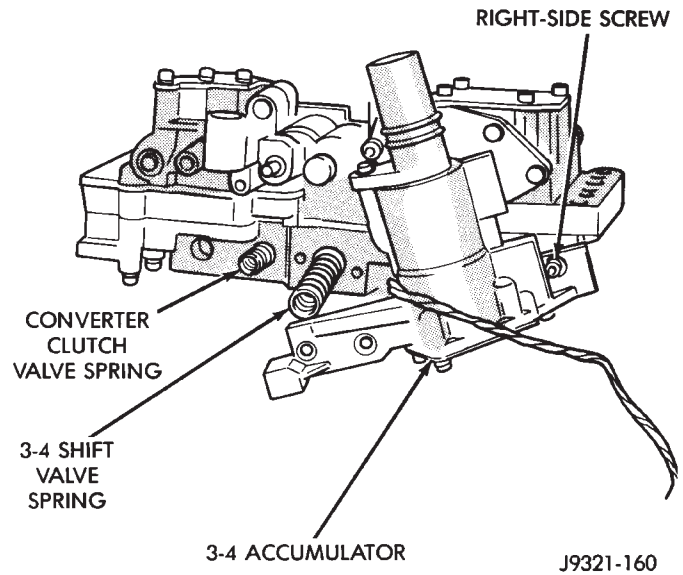
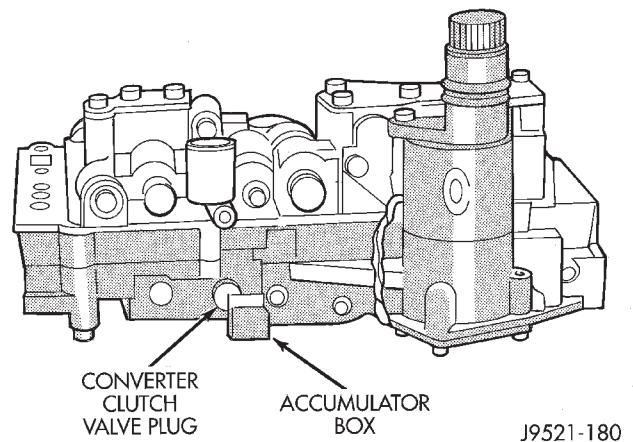

Fig. 81 Converter Clutch And 3-4 Shift Valve Springs
Fig. 82 Seating 3-4 Accumulator On Lower Housing
(1) Position converter clutch valve and 3-4 shift valve springs in housing (Fig. 81).
(2) Loosely attach accumulator housing with right-side screw (Fig. 81). Install only one screw at this time as accumulator must be free to pivot upward for ease of installation.
(3) Install 3-4 shift valve and spring.
(4) Install converter clutch timing valve and spring.
(5) Position plug on end of converter clutch valve spring. Then compress and hold springs and plug in place with fingers of one hand.
(6) Swing accumulator housing upward over valve springs and plug.
(7) Hold accumulator housing firmly in place and install remaining two attaching screws. Be sure springs and clutch valve plug are properly seated (Fig. 82). Tighten screws to 4 N·m (35 in. lbs.).